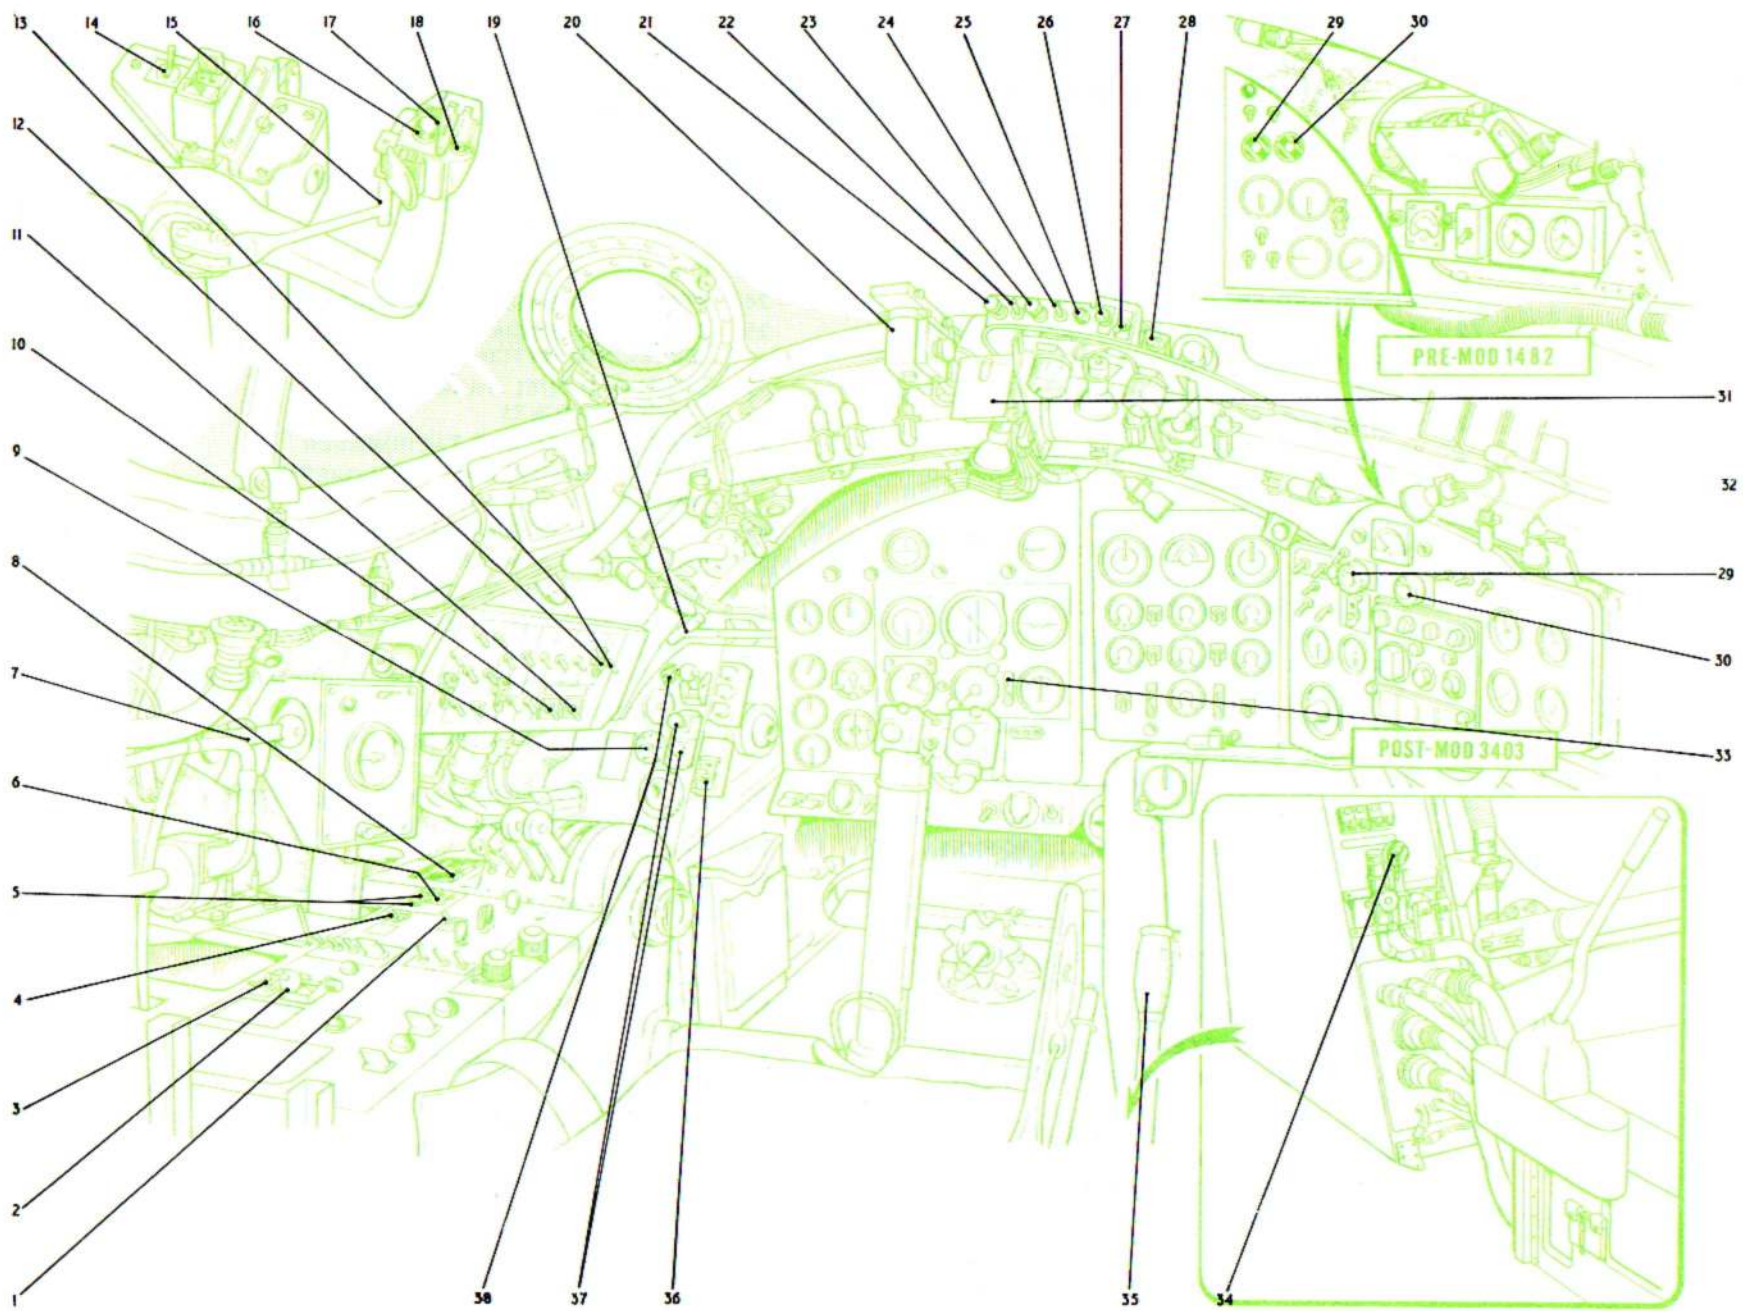

Fig.3. Operational equipment (B(I) Mk.6 aircraft)
**KEY TO FIG.3 (OPERATIONAL EQUIPMENT – B(I) MK.6 AIRCRAFT)**